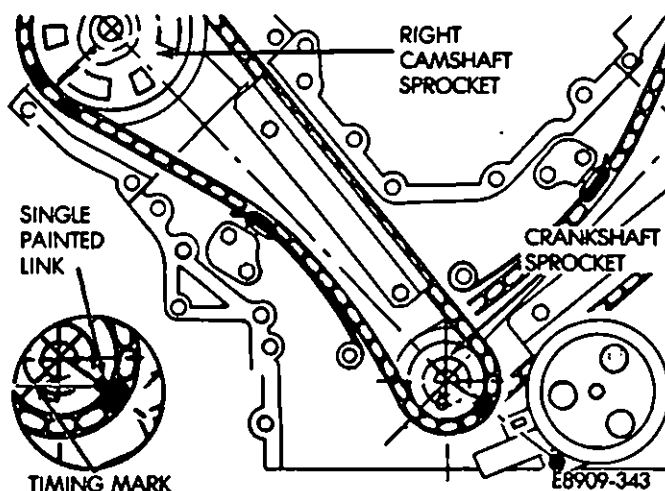

Fig. 21—Crankshaft to Timing Chain Alignment
(14) Single painted link on the bottom of the timing chain is aligned with timing mark on the middle sprocket (Fig. 21).